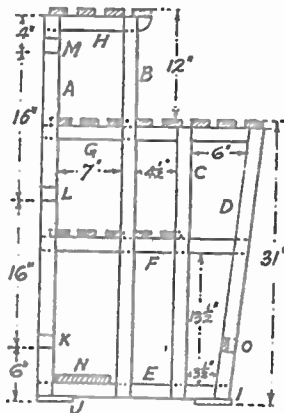
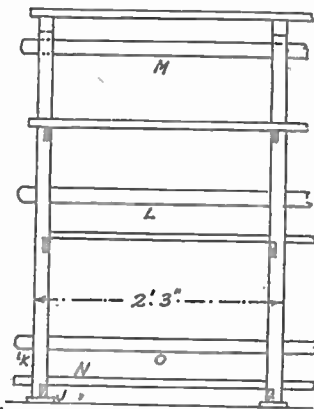
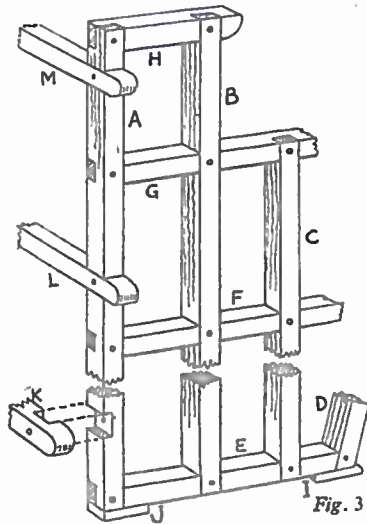
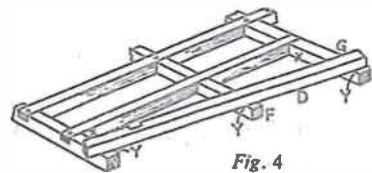

Fig. 1
Fig. 2
Fig. 3
Fig. 4
MAKE the bottom boards to be a loose fit between the main frames, and put additional bearers on frames 3 and 5, with blocks and turn buttons (Fig. 3). Clean off any sharp edges on the framework.
At amidships strain the canvas to the gunwales and tack inside (Fig. 4). Put the boat the right way up. Tack at about 2 ins. intervals inside the gunwales. Use hand pressure for straining only, and do about 1 ft. at each side in turn, working outwards from the
sioned, then tack at about 2 ins. intervals all round the gunwales. Cut out the cockpit opening and tack to the coaming frames (Fig. 4) and frame 6. Do not tack to the deck stringers or other frames. Cover the canvas joints around the gunwales with the rubbing strips (K), with screws at about 6 ins. intervals.
Now lay all the uprights side by side and level at the foot, and proceed to set out the height measurements. Commencing at the foot they are: 1½ins., 14ins., 1½ins., 10½ins., 1½ins. and 10½ins. With a try-square draw across all the rails in one operation. This will make for accuracy later on when they are cut. Mark the horizontal rails exactly the same, and finally cut in the halvings so that they all fit together as in Fig. 3. Note that the vertical rails 'run through' on the outer face (Fig. 1). The halvings can be cut with a fine-tooth tenon saw, the waste wood being removed with a chisel.
given in Figs. 1 and 2, and it can be in either a single unit or a double unit as Fig. 2 shows. It is not necessary to keep strictly to the measurements given; the staging could be arranged to fit in a certain space if desired.
care not to split any of the end joints, and glue and screw them securely. Now the upright rail D, being slightly on the slope, must be marked out as shown in Fig. 4. Lay the rail, previously cut to full length, on rails E, F and G, setting out a width of 3½ins. clear at the foot end and 6ins. at the top as in Fig. 1. This operation is plainly seen at XX in Fig. 4. Mark across with pencil at Y, on the inside of the rail D, but not on the outside as the waste wood here can be better cut off with the tenon saw after
The two end frames are now connected by the horizontal rails K, L and M, at the back, and by the rail O at the front. Set out the three measurements shown in Fig. 1 as 6ins., 1½ins., 16ins., 1½ins., 16ins. and 1½ins. and cut in the halvings as in Fig. 3. Now make the rails to fit these halvings, the length of
the rails being made to suit the spacing of the uprights. The width of 27ins. is suggested as being suitable for the single rack (see Fig. 2). Round off the ends of the three rails just dealt with.